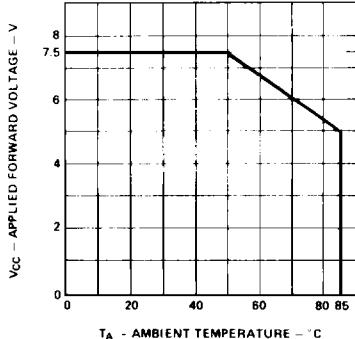

Figure 3. Maximum Allowed Applied Forward Voltage
2. Derate from T_A = 50°C at 0.071 V/°C, see Figure 3.